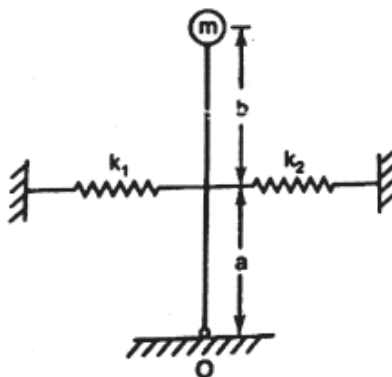

Fig. 1 (Q. 1b)
- b)** Determine the expression for natural frequency of the system shown in Fig. 1 **[4]**